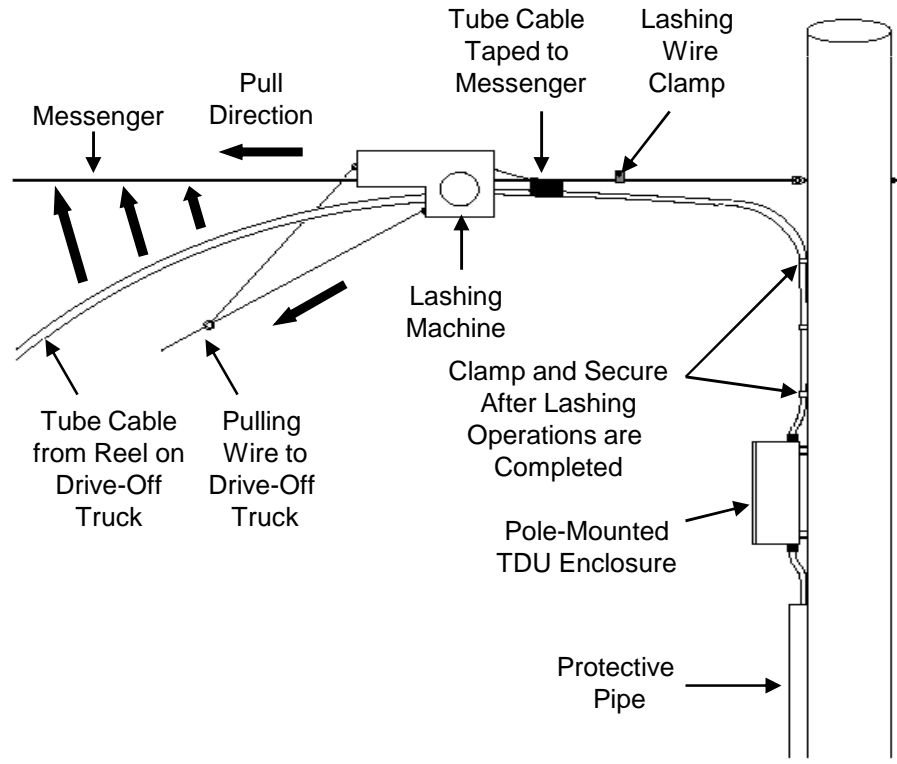

Figure 27
20.3 Tube cable can be installed with a drive-off method and lashed to new strand using a standard lashing machine and telecommunications standard 430 grade lashing wire. **See Fig. 27.**